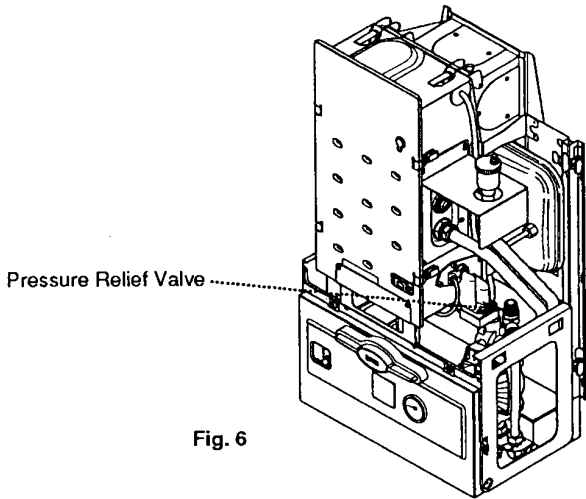

Fig. 6
**4.9 Pressure Relief Valve (Figs. 6 & 7)**